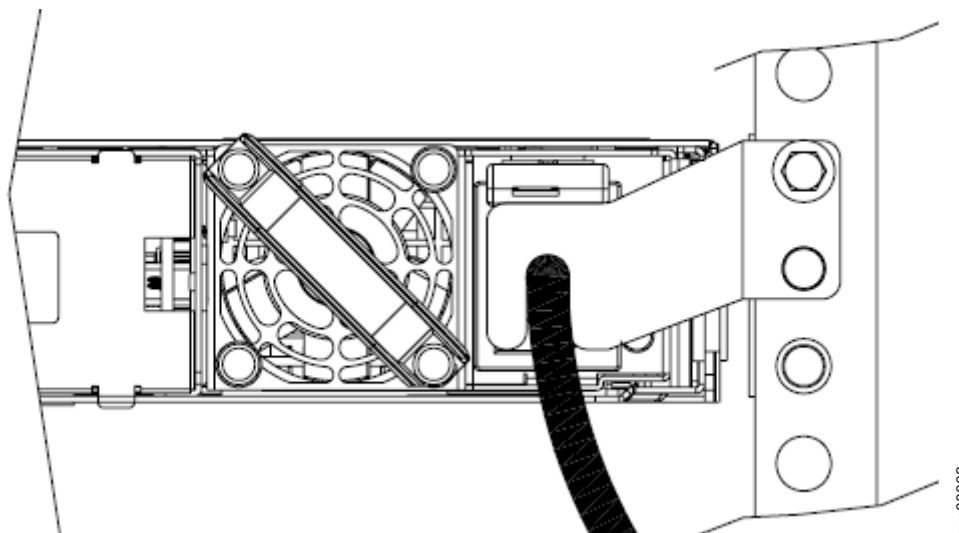

Figure 27. The SAN Volume Controller 2145-8G4 with cable-retention bracket type B attached
1. Remove the securing bolt from the node side rail (shown in Figure 27 on page 40) next to the power supply.